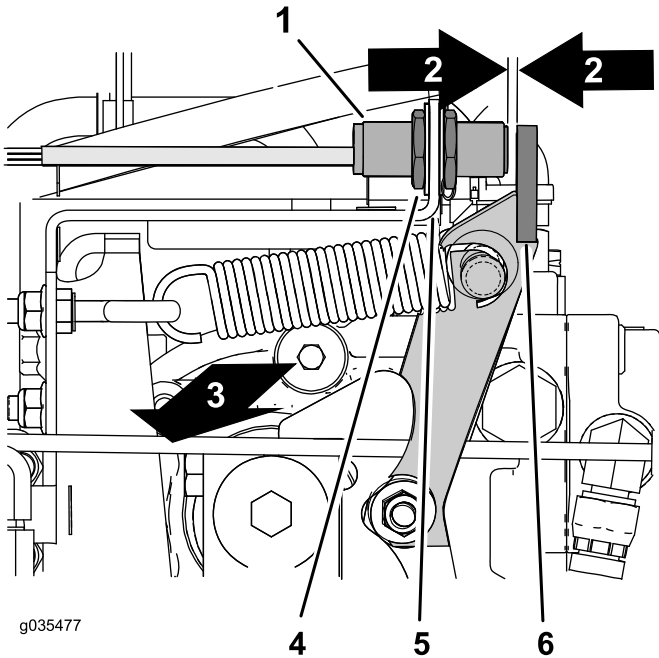

Figure 71
- A. Locate the proximity sensor at the right, top side hydraulic pump (Figure 71).
- B. Verify that the proximity sensor bracket is not bent, and that the light at the back of the sensor is illuminated (Figure 71).
1. Locate the proximity sensor at the right, top side hydraulic pump (Figure 71).
2. Loosen the jam nuts at either side of the sensor bracket (Figure 71).
3. Adjust jam nuts until there is a 2.5 to 3.6 mm(0.10 to 0.14 inch) gap between the end of the proximity sensor and the flange of the neutral arm (Figure 71).
4. Tighten the jam nuts (Figure 71).